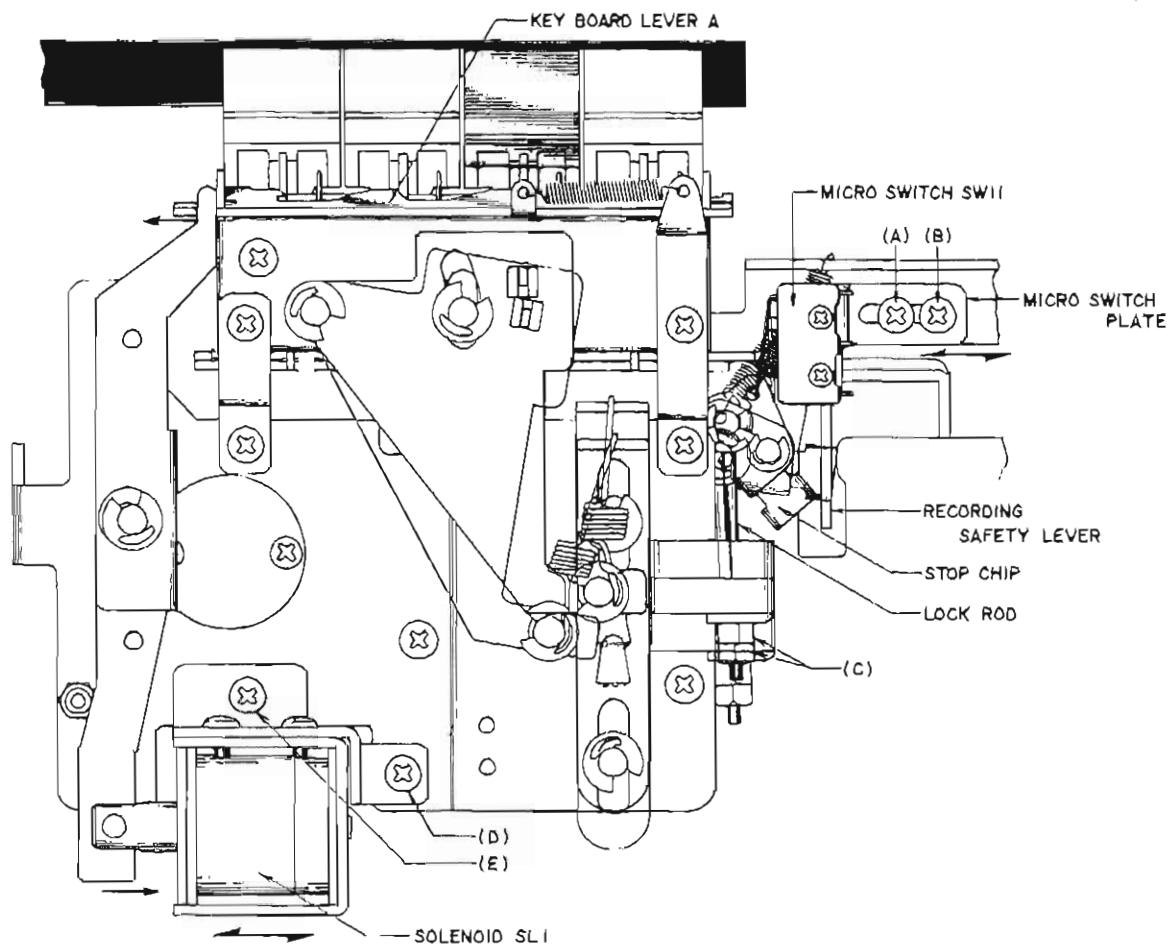

Fig. 11 "Stop" mode
3. MICRO SWITCH (SW 11) POSITION ADJUSTMENT (See Figs. 11 & 12)